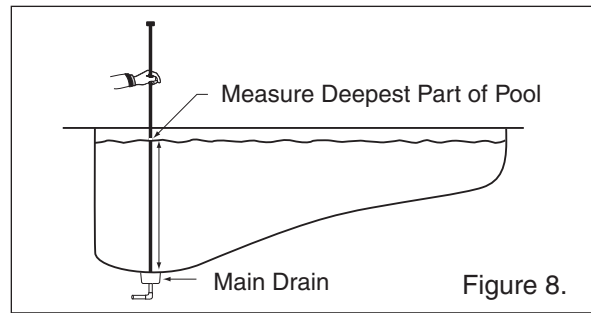

Figure 8.
1. Measure the deepest part of the pool. **See figure 8.**